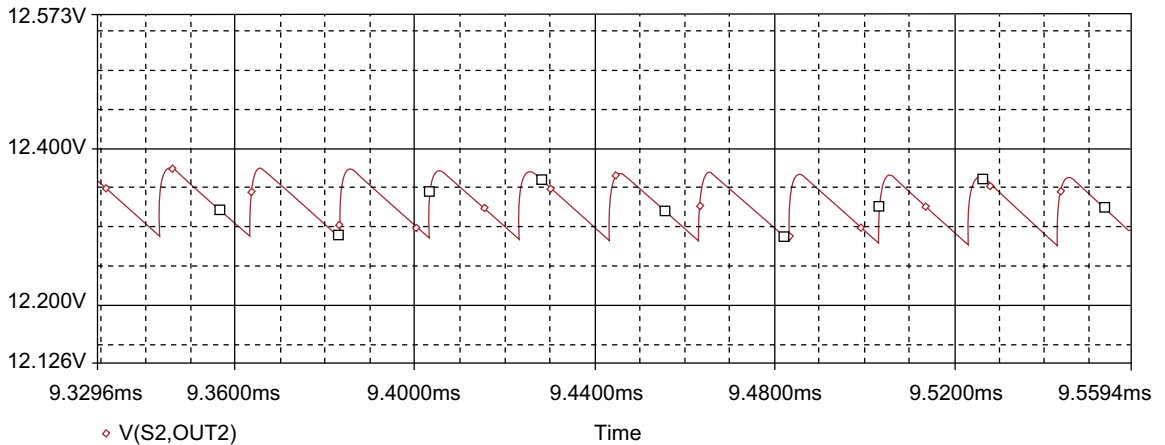

FIGURE 21.28
4. You should see that the output voltage is larger than 12 V (Figure 21.28). As the maximum duty cycle was specified as 45%, this can be decreased to